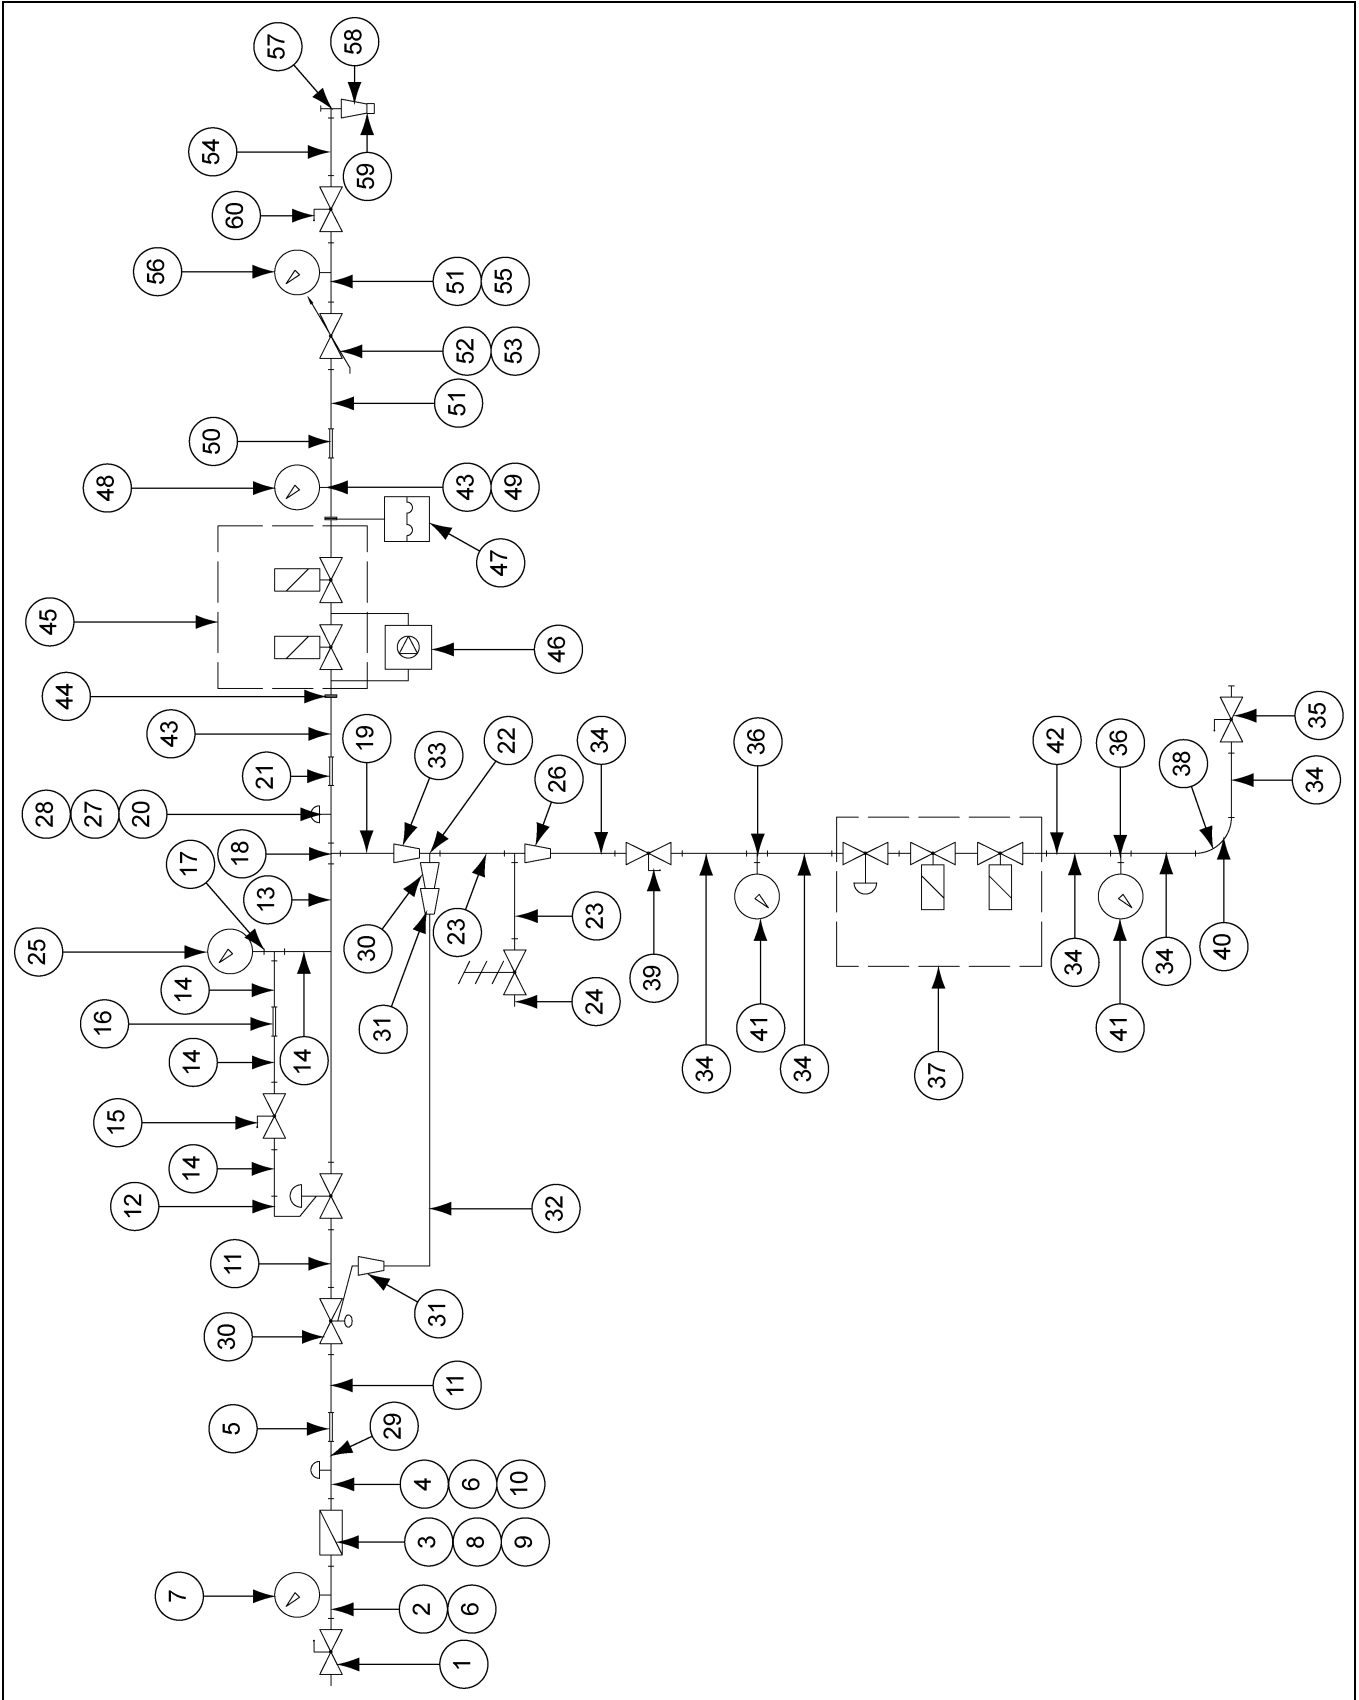

Figure 3B Dryer Pipe Train
1. Pressure from supply read at inlet gauge. (Ref # 7 on Figure 3B on Page 16.)
2. Pressure after regulator read at sensing line gauge. (Ref # 25 on Figure 3B on Page 16.)
3. Pressure set with pilot flow adjuster on pilot valve (Ref # 37 on Figure 3B on Page 16) read at pilot gauge (Ref # 41 on Figure 3B on Page 16).
4. Relief valve. (Ref # 24 on Figure 3B on Page 16.)
5. OPSO valve. (Ref # 30 on Figure 3B on Page 16.)
6. Burner pressure with modulating valve at maximum read at burner pressure gauge. (Ref # 56 on Figure 3B on Page 16.)
7. Burner pressure with modulating valve at minimum read at burner pressure gauge. (Ref # 56 on Figure 3B on Page 16.)